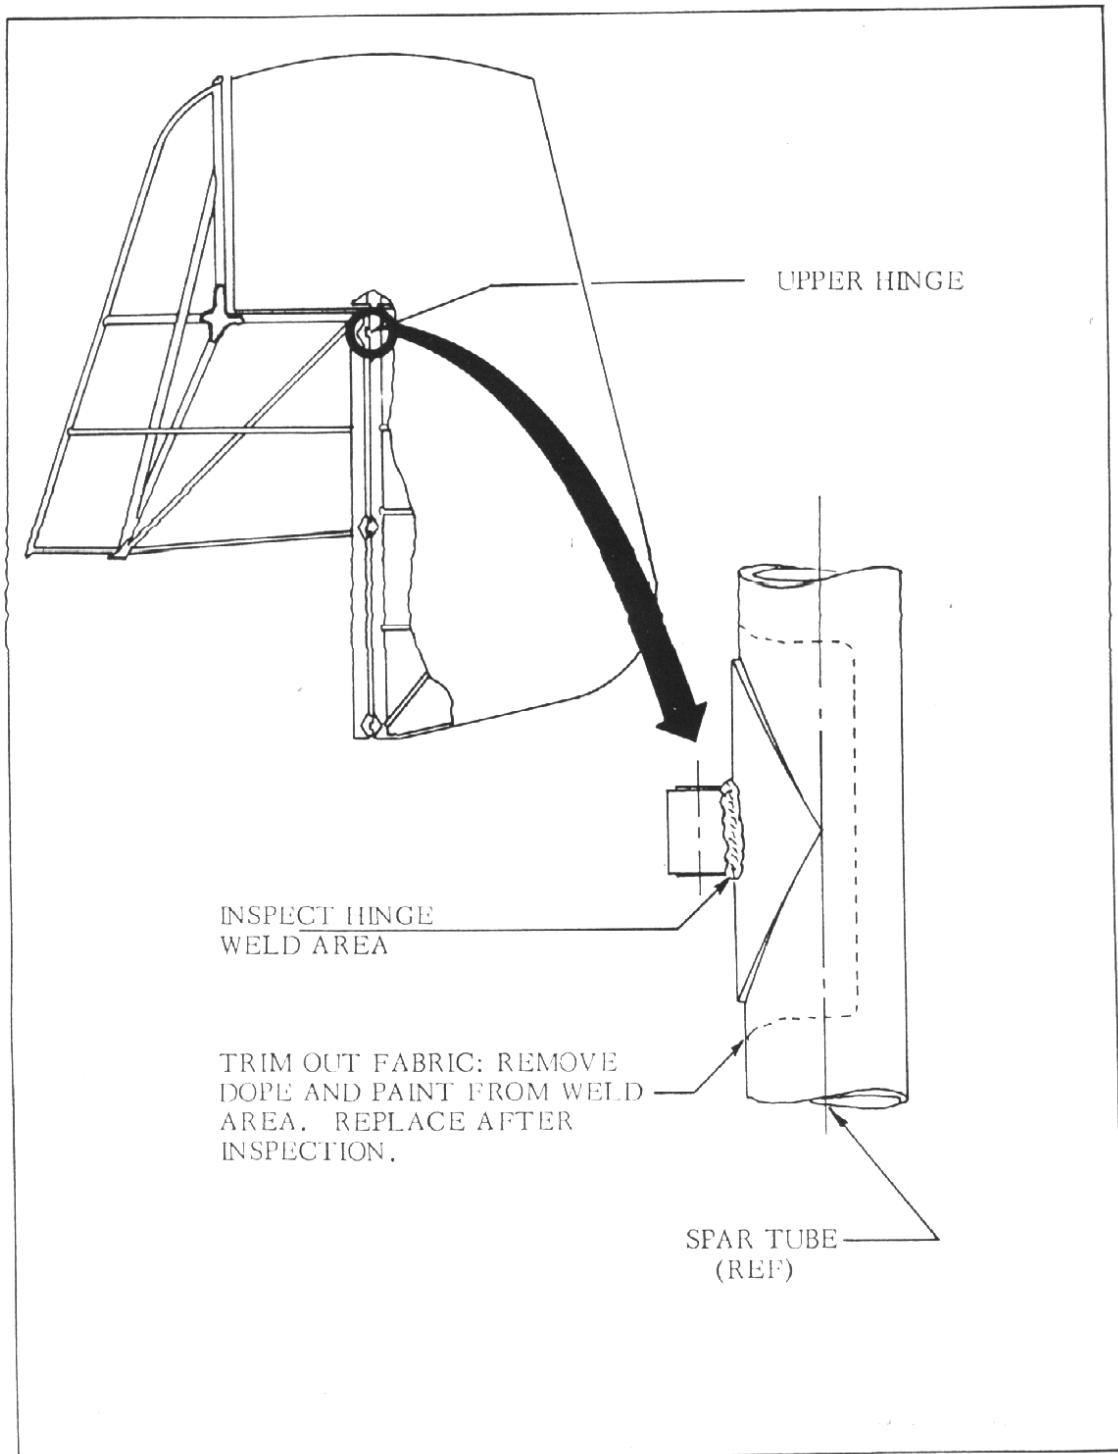

Figure 1
3. Inspect in and around weld bead on rudder hinge bushing for cracks. (See Figure 1).